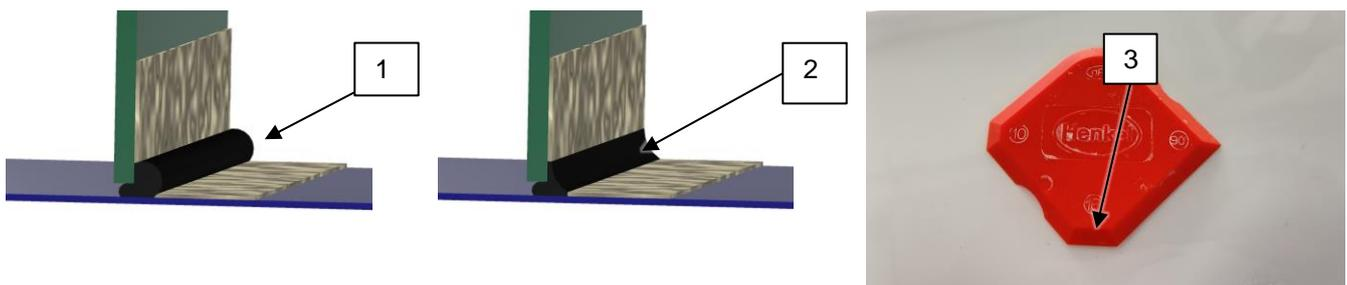

Abb. 4-2: Adhesive application and sealing seam [G0001642]
- To do this, first fill the gap completely with adhesive (s. Abb. 4-2, 1).
- Then smooth the seam with a joint smoother in combination with Sika smoothing agent N (2).
- The joint smoother should have a straight (s. Abb. 4-2, 3) and not curved surface for smoothing the joint in order to have more adhesive in front of the joint and on the components for a more stable bond.